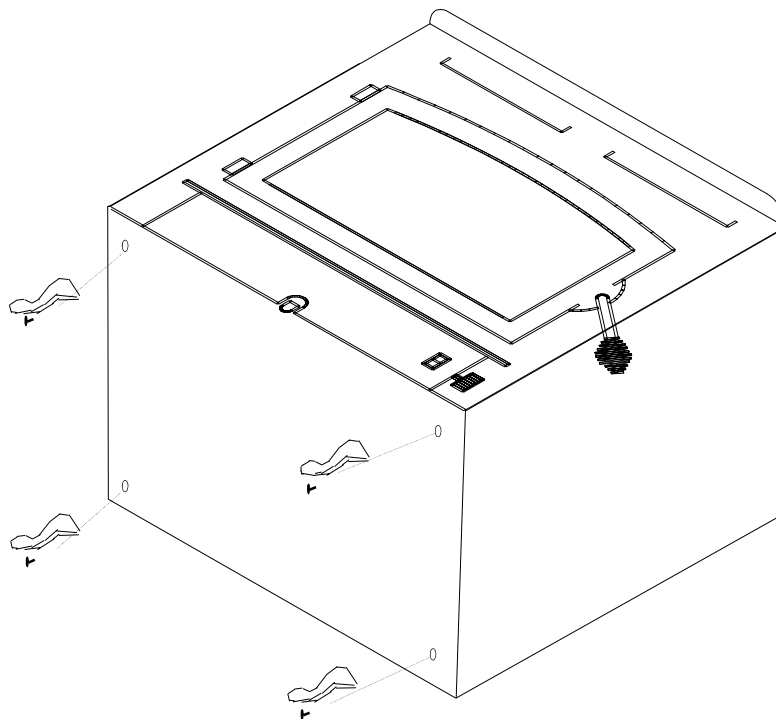

Figure 9
6. Then obtain four legs, attach legs to holes in bottom of unit with bolts and washers supplied with leg kit. (See Figure 9).